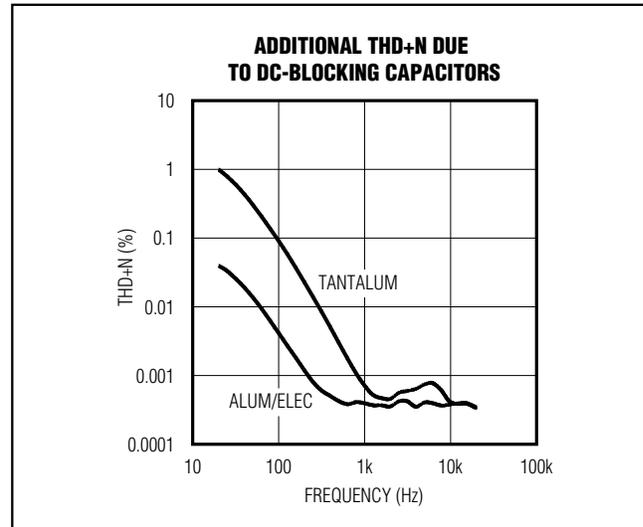

Figure 5. Distortion Contributed by DC-Blocking Capacitors
- 2) The voltage coefficient of the DC-blocking capacitor contributes distortion to the reproduced audio signal as the capacitance value varies and the function of the voltage across the capacitor changes. The reactance of the capacitor dominates at frequencies below the -3dB point and the voltage coefficient appears as frequency-dependent distortion. Figure 5 shows the THD+N introduced by two different capacitor dielectric types. Note that below 100Hz, THD+N increases rapidly. The combination of low-frequency attenuation and frequency-dependent distortion compromises audio reproduction in portable audio equipment that emphasizes low-frequency effects such as in multimedia laptops, MP3, CD, and DVD players. By eliminating the DC-blocking capacitors through DirectDrive technology, these capacitor-related deficiencies are eliminated.